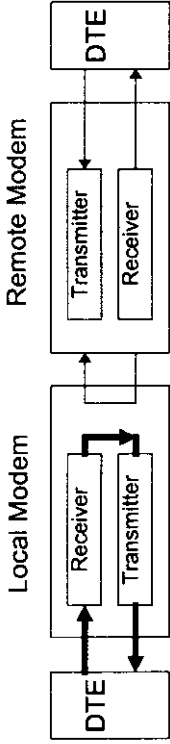

Figure 16. Local Analog Loopback Test
- **Local Analog Loopback (LAL)** - This test lets you check the interface and connection between the modem and the DTE (Figure 16). A successful LAL executed after a successful LDL test verifies that the modem is operating properly.